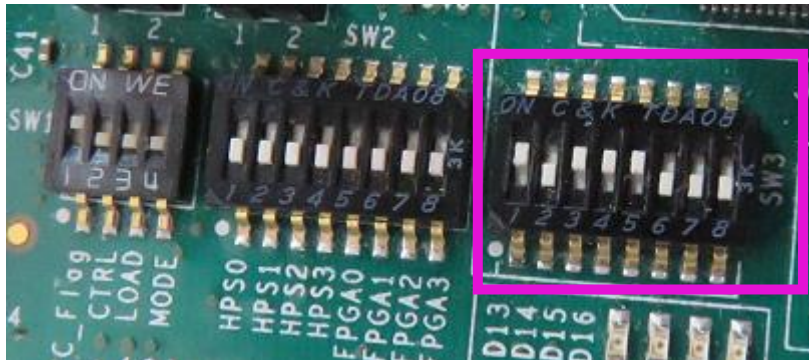

Figure 4-8 SW3 setting
- Set the switches of the SW3 as shown in the **Figure 4-8** first.